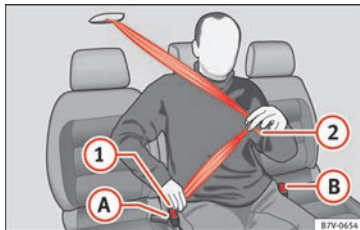

Fig. 88 Fasten the seat belt on the centre seat in the second row of seats
- Use latch plate of the belt » Fig. 88 ① to pull the seat belt down. Do **not** twist the seat belt when doing so » Δ .
- Engage the latch plate ① in the buckle of the corresponding seat **A**.
- Use the latch plate » Fig. 88 ② to pull the seat belt across your lap.
- Engage the latch plate ② in the buckle of the corresponding seat **B**.
- Press the red button on the buckle » Fig. 88 **A**. The latch plate is released from the buckle.
- Press the red button on the buckle » Fig. 88 **B**. The latch plate is released from the buckle.